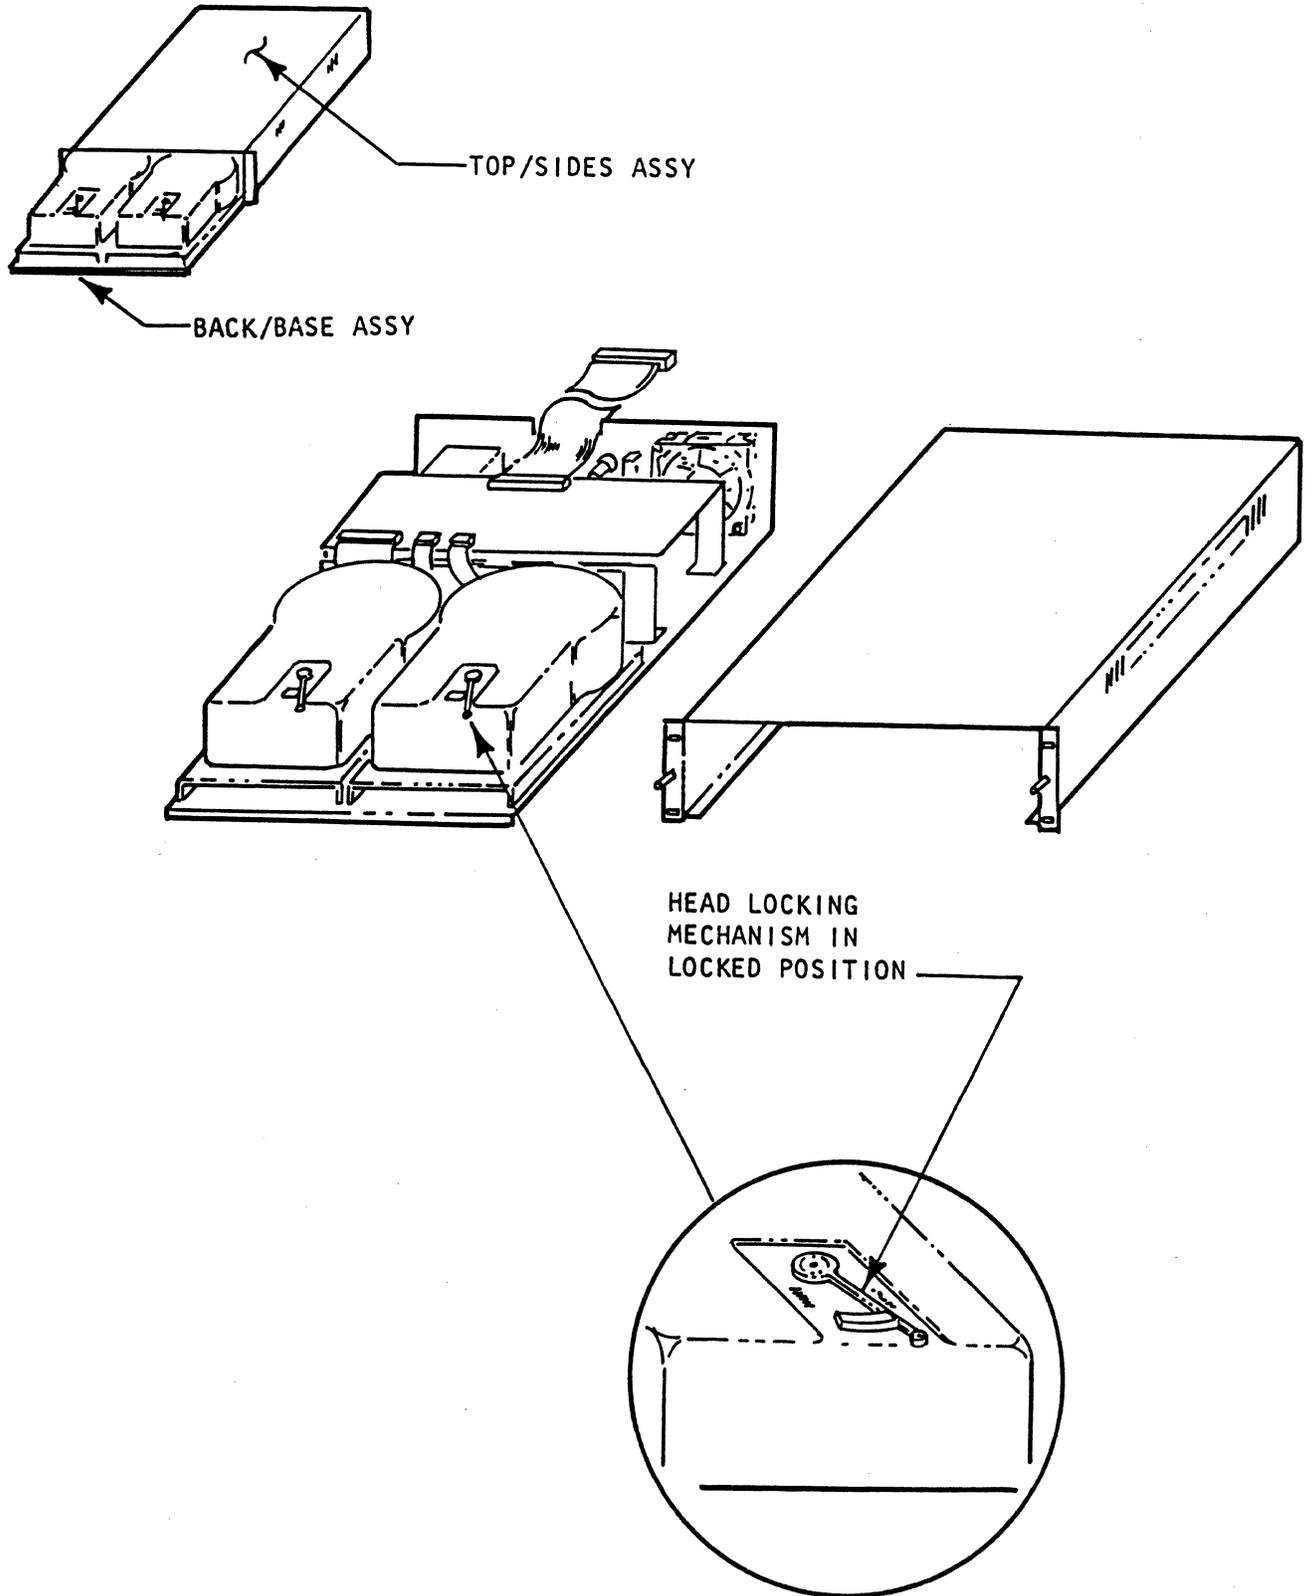

Figure 2-1b. Winchester Drive Head Lock Mechanism
- f. Verify that the WINC-08 drive(s) head locking mechanism is engaged, i.e., that the white nylon arm is in the right most position as shown in Figure 2-1b.
- Step 3. Turn the unit upright and slide the base/back assembly out of the top/sides assembly (see Figure 2-1b).